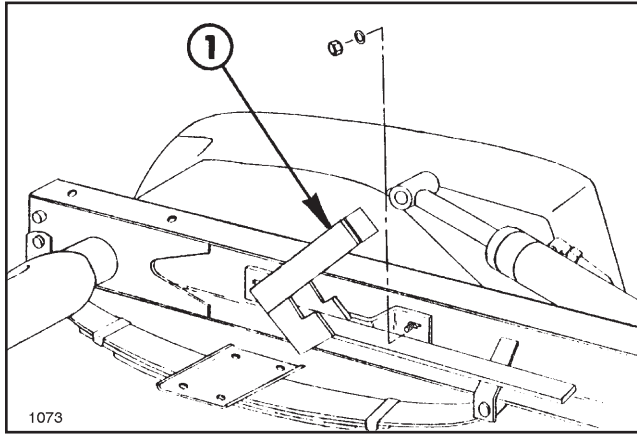

FIG. 8
1. Remove (2) 3/8" nuts and attaching bolts that hold the left rear fender to the vehicle frame. Place a 10 GA. flat washer on each bolt. Install bolts through fender and vehicle frame and mount the Tank Support Bracket with these bolts. Reinstall the nuts and tighten securely. See FIG. 8.